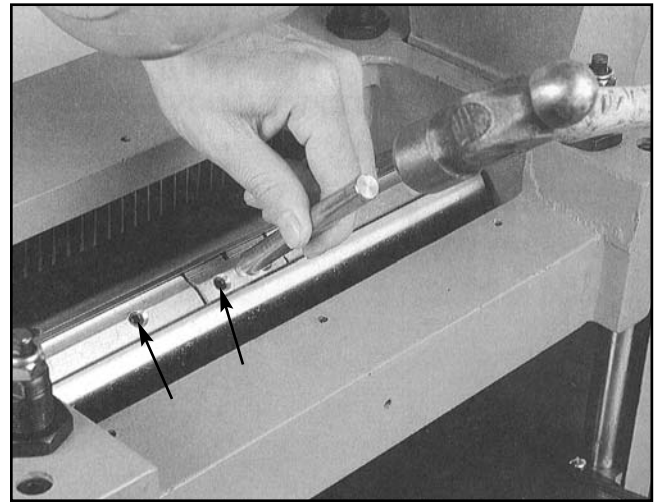

Figure 7.
1. Simply loosen the gib setscrews and tap the gib down using a hammer and the included brass punch or a piece of wood. **Figure 7.**